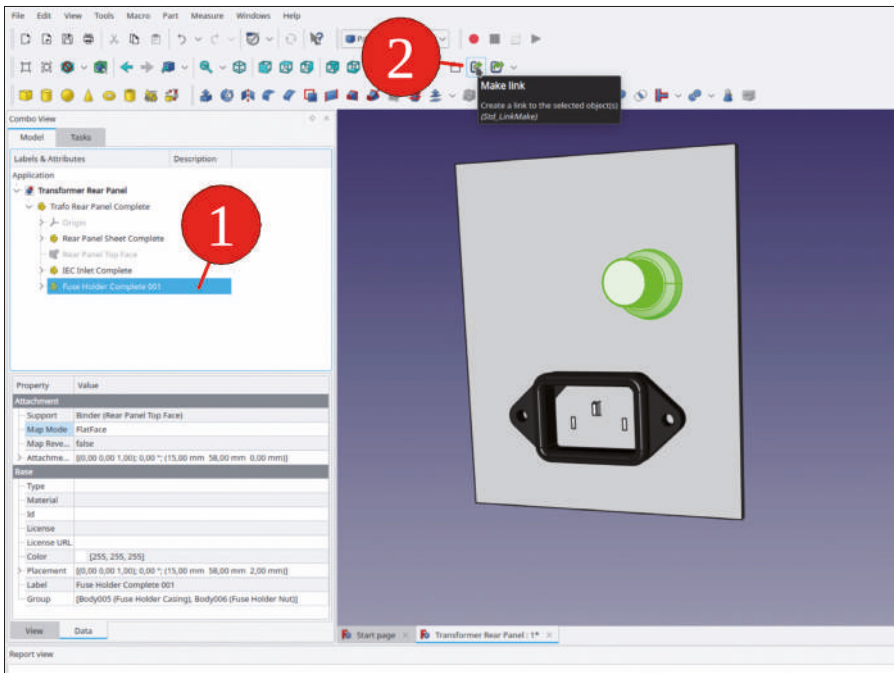

Figure 9-43
5. In the tree view, mark 'Fuse Holder Complete 001'. Then, click the 'Make link' tool button (Figure 9-43). Drag-and-drop the new 'Fuse Holder Complete 002' into the Std-Part-Container 'Trafo Rear Panel Complete'.